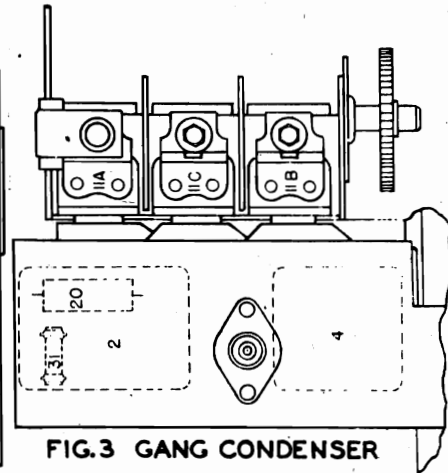

FIG. 3 GANG CONDENSER
- d. Adjust the parallel trimmer for the oscillator section of the condenser gang (Illustration 11C, Figure 3) for maximum output. (It is very important that this frequency be set accurately as a slight mis-setting will cause the receiver to be out of track over the entire high frequency end of the dial.)
- d. Adjust the R-F parallel trimmer on the condenser gang (Illustration 11B) and the antenna compensating condenser which is the parallel trimmer on the Condenser Gang (Illustration 11A, Figure 3).